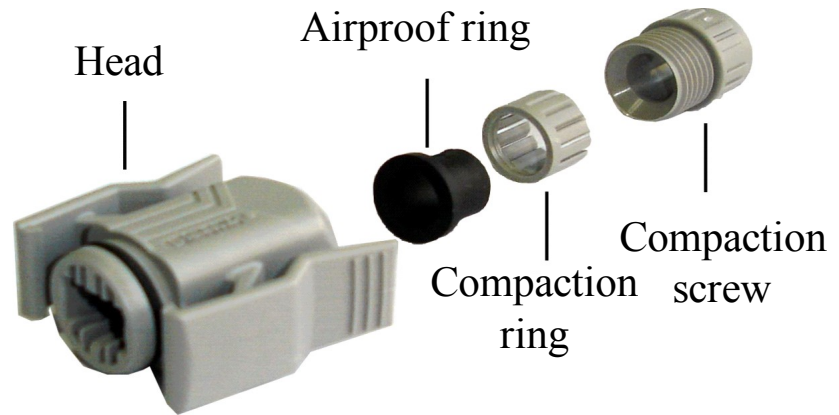

Figure 3-10 RJ45 Connector Disassembled
- 1、 Disassemble the RJ45 connector as shown in Figure 3-10: